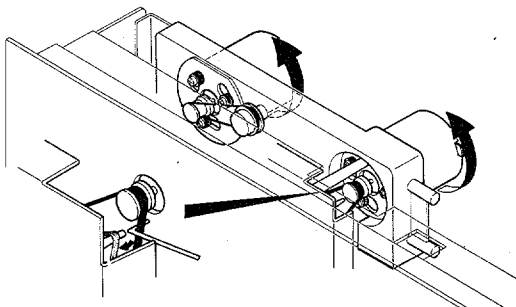

Fig. 4
- 2) Once rotated in the direction of the arrow, the main and sub motors can be removed easily (See Figure 4.)